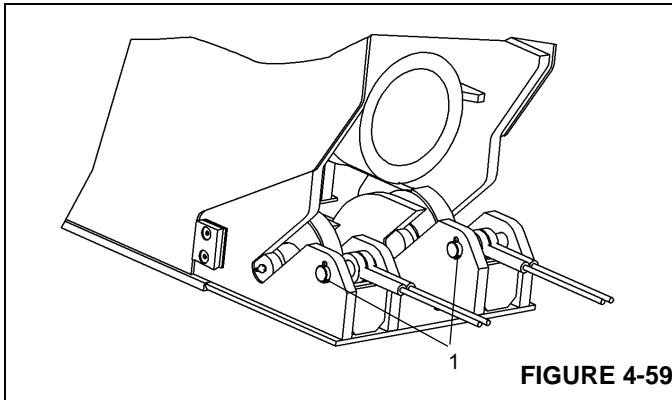

FIGURE 4-59
- Lubricate and install pin through cable ends. Secure pin (Figure 4-59, 1) with cotter keys.